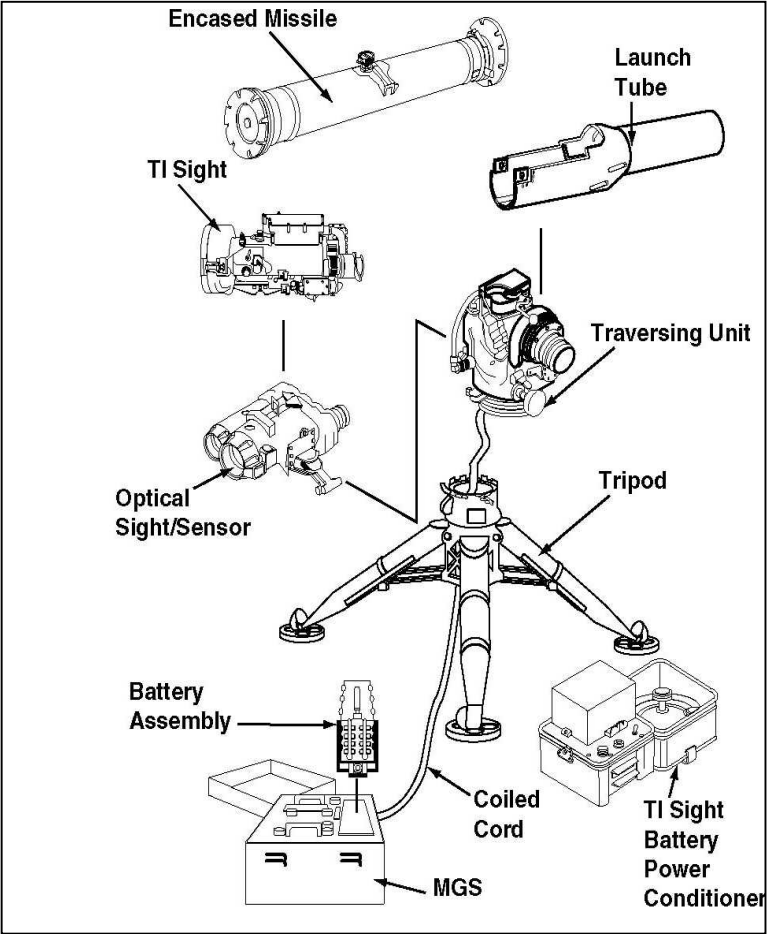

Figure 2-2-1: TOW 2 Components
10. The TOW 2 consists of the following ten major components (see Figures 2-2-1 and 2-2-9):
- f. thermal imagery (TI) sight: